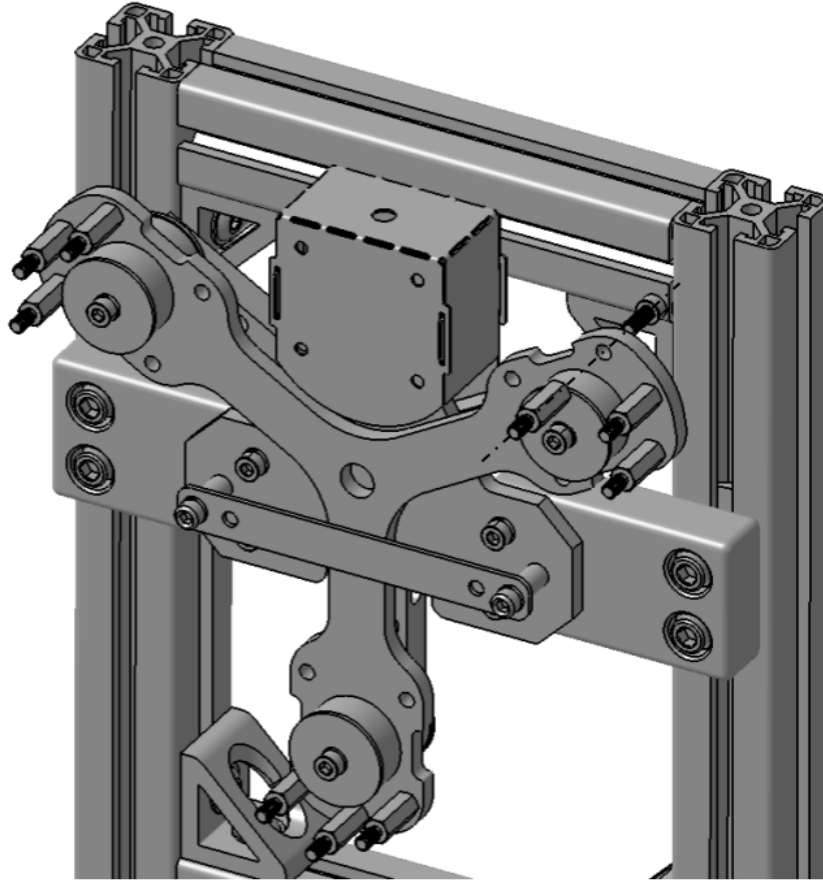

Fig. 4.37: Installation of the screws, washers, and standoffs to the load measurement unit
- ❑ Insert the M5 screws in the female part of the nine M5 standoffs, and tighten them well, as shown in Fig. 4.37.